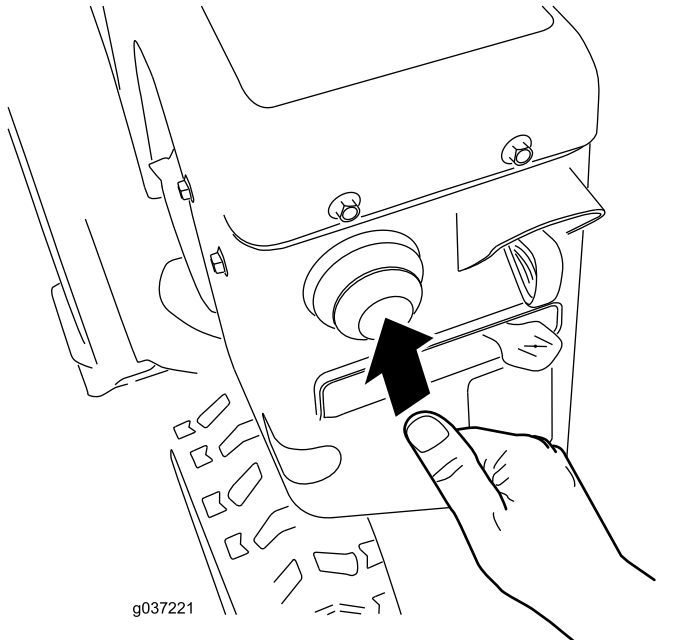

Figure 22
4. Firmly push in the primer with your thumb as indicated by the following table, holding the primer in for a second before releasing it each time (Figure 22).